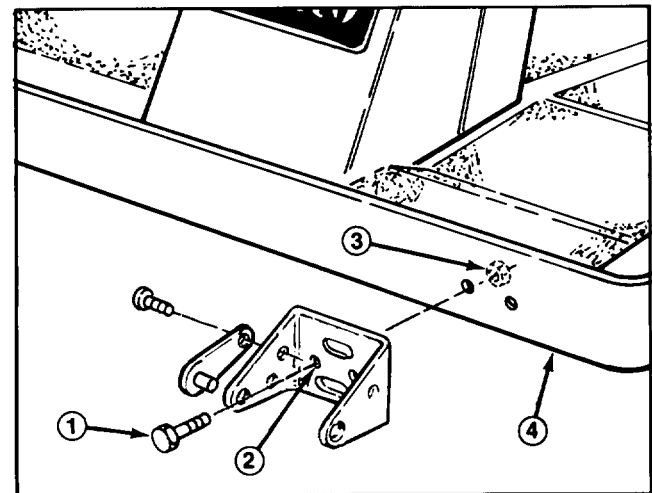

Figure 9
1. 3/8 x 1" flange screw (2)
- B. Groundsmaster 217-D and 220 — Align the bracket with the frame mounting holes. Insert (2) 3/8 x 2-1/4" capscrows through the non-slotted bracket holes and frame mounting holes. Install locknuts and torque to 45-50 ft-lb (Fig. 9).